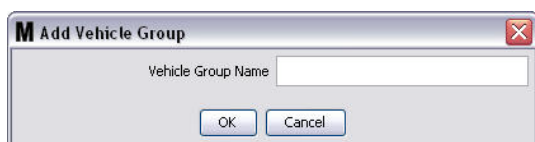

FIG. 152
3. The Add Vehicle Group text box shown in FIG. 152 displays. This box is used to assign a Group Name to identify the vehicles you are putting together in a group. Click the OK button to close the box and save the name.